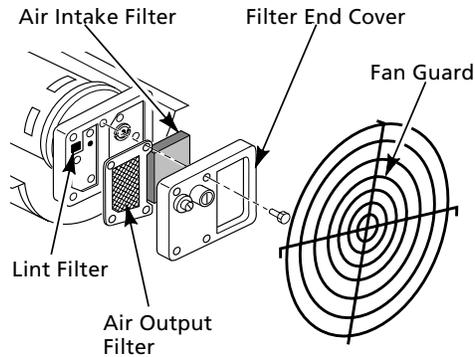

Figure 7 - Air Output, Air Intake, and Lint Filters
2. Remove filter end cover screws using 5/16" nut-driver (See Figure 7).